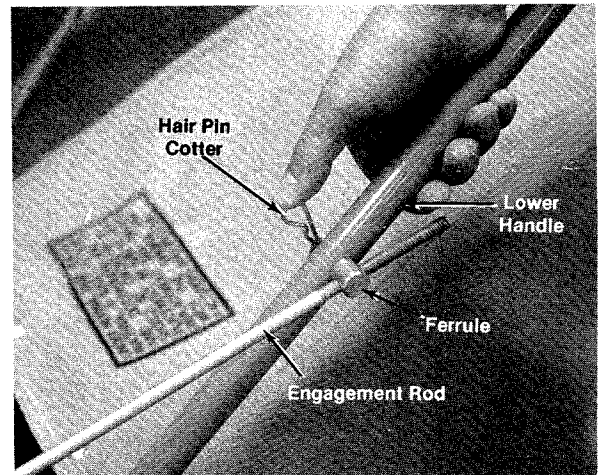

FIGURE 10
2. Place ferrule on threaded end of engagement rod and secure in hole of lower handle, with hair pin cotter. See figure 10.
1. Remove the hair pin cotter from the ferrule. See figure 10.
2. Pull the ferrule and engagement rod out of lower handle. See figure 10.